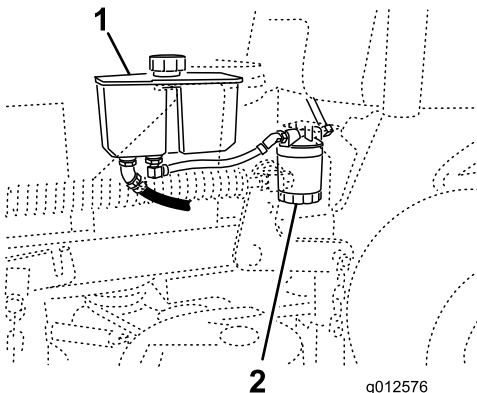

Figure 70
3. Locate the filter and place a drain pan under the filter (Figure 70).